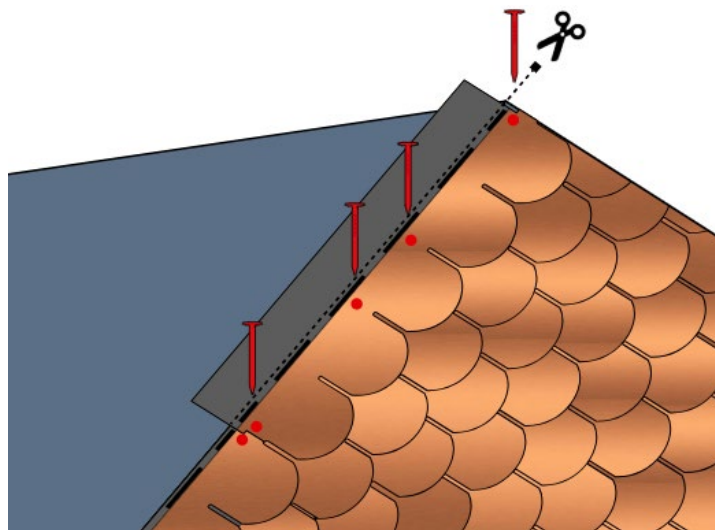

**Fig. 7 – Shingles installation**
- Apply over the membrane/underlayer a bead of bituminous adhesive Bitustick close to the gutter line – Fig. 7;
- Proceed with the installation of the first row of shingles: align the lateral edge of the first shingle on the vertical **z** and the upper edge on the horizontal 14,5 cm from **x** – Fig. 7. Nail the shingle to the substrate by placing 4 nails per shingle, as per Fig. 8 a). In the event of pitched slopes between 60° and 85°, place 2 additional nails, for a total of 6 nails per shingle, as per Fig. 8 b). Proceed by placing all the shingles in the first row.